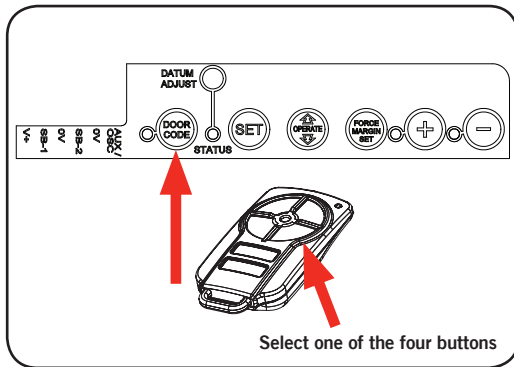

Fig.25
Step 13.1 - Coding a Transmitter Button for Door Operation (Fig.25)